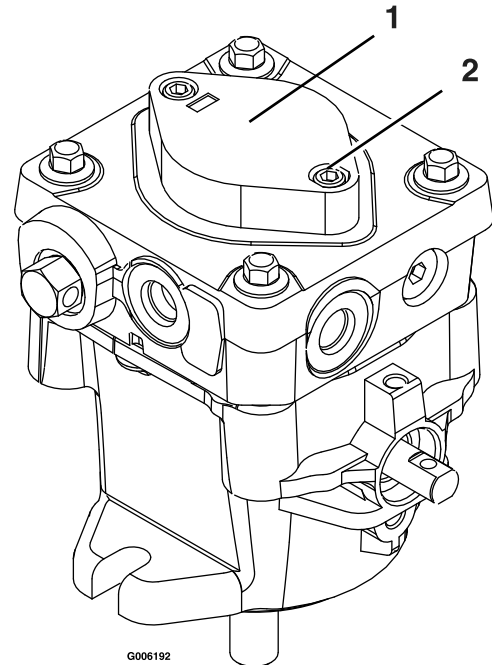

Figure 14
- If either drive wheel does not rotate, one or both of the charge pumps (located on the top of the main pump as shown in Figure 14) may have lost their "prime". Refer to **Hydraulic System Air Purge** section.
The critical area for purging air from the hydraulic system is between the oil reservoir and each charge pump located on the top of each variable displacement pump (Figure 14). Air in other parts of the hydraulic system will be purged through normal operation once the charge pump is "primed".
5. To “prime” charge pump, loosen two hex socket head capscrews (shown in Figure 14) **1 1/2 turns only. Make sure engine is not running.** Lift the charge pump housing upward and wait for a steady flow of oil to flow out from under the housing. Retighten the capscrews. Do this for both pumps.